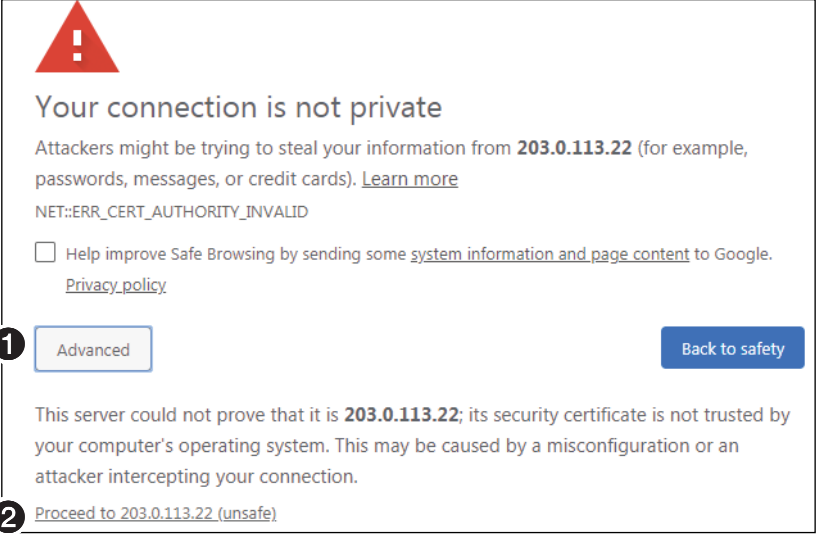

Figure 7. Privacy Notification (Shown in Chrome Browser)
- If you do not have a trusted SSL Certificate, the browser displays a privacy notification (see figure 7). Continue to the login dialog box as follows: